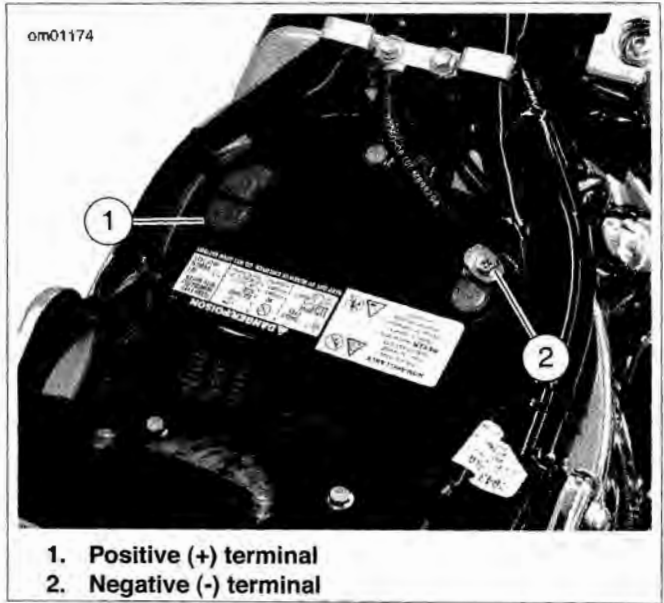

Figure 1-65. Battery: Softtail Models
6. See Figure 1-65. Install battery. Tighten positive battery terminal fastener to 60-72 in-lbs (6.8-8.1 Nm).
7. Install negative battery cable (2) at battery frame ground before any accessory ground wires.
8. Install negative battery cable (2) at battery. Tighten negative battery terminal fastener to 60-72 in-lbs (6.8-8.1 Nm).